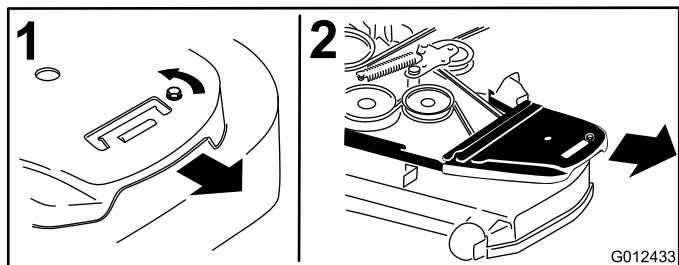

Figure 55
4. Remove the belt covers and the bolts attached to them (Figure 55).